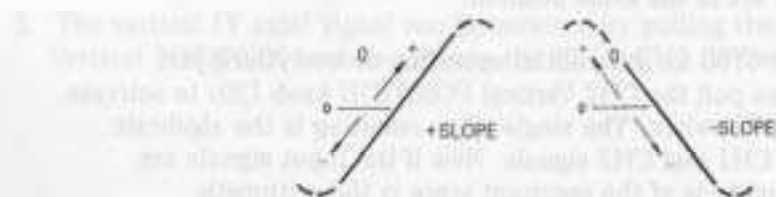

Fig. 2-5. TRIGGER LEVEL SELECTION
The LEVEL control [31] determines the point on the selected slope at which the main (A) timebase will be triggered. The effect of the LEVEL control on the displayed trace is shown in Fig. 2-5. The +, 0, and - panel markings for this control refer to the waveform's zero crossing and points more positive (+) and more negative (-) than this. If the trigger slope is very steep, as with square waves or digital pulses, there will be no apparent change in the displayed trace until the LEVEL control is rotated past the most positive or most negative trigger point, whereupon the display will free run (AUTO sweep mode) or disappear completely (NORM sweep mode), trigger at the mid point of slow-rise waveforms (such as sine and triangular waveforms), since these are usually the cleanest spots on such waveforms.